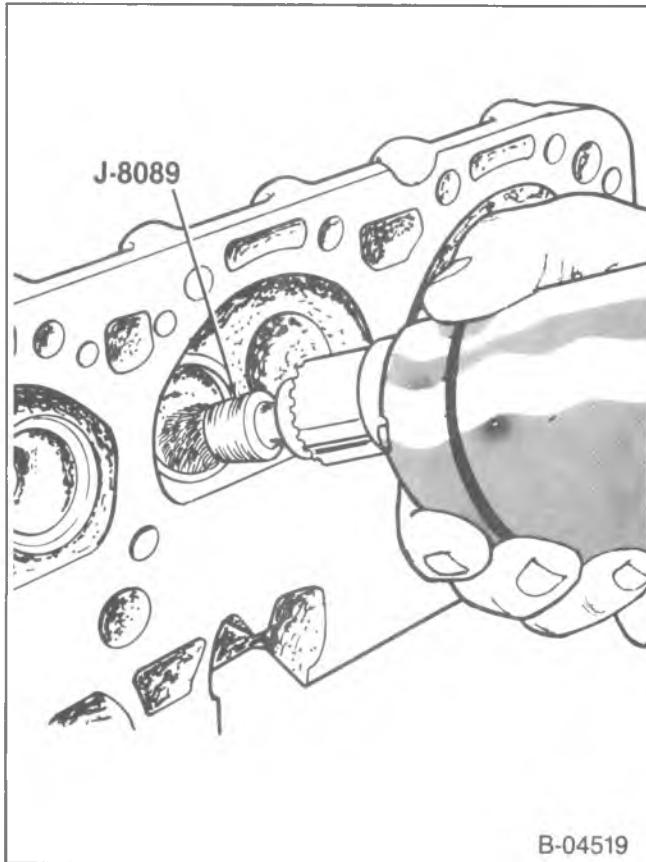

Figure 30—Cleaning the Combustion Chambers
Clean (Figures 30 and 31)
- Carbon from the combustion chambers. Use J-8089 (figure 30).